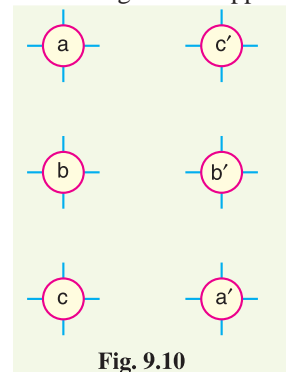

Fig. 9.10
**(c)** The principle of geometrical mean distances can be most profitably employed to 3- $\phi$  double circuit lines. Consider the conductor arrangement of the double circuit shown in Fig. 9.10. Suppose the radius of each conductor is  $r$ .